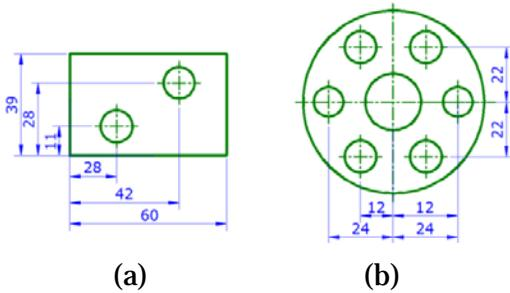

Fig. 4.10 (A) and (B) datum dimensioning
Points, lines or edges and surfaces of an object from which the locations of other features of the object are established is known as *datums*. For example the left side and bottom surfaces of the object, as shown in Fig.4.10 (A) are the datum surfaces and similarly the centerlines of the largest holes are used as datum lines for the other object as shown in Fig.4.10 (B). This dimension may be necessary if a part with more than one critical dimension must mate with another part as shown in fig 4.10 (A) and (B).